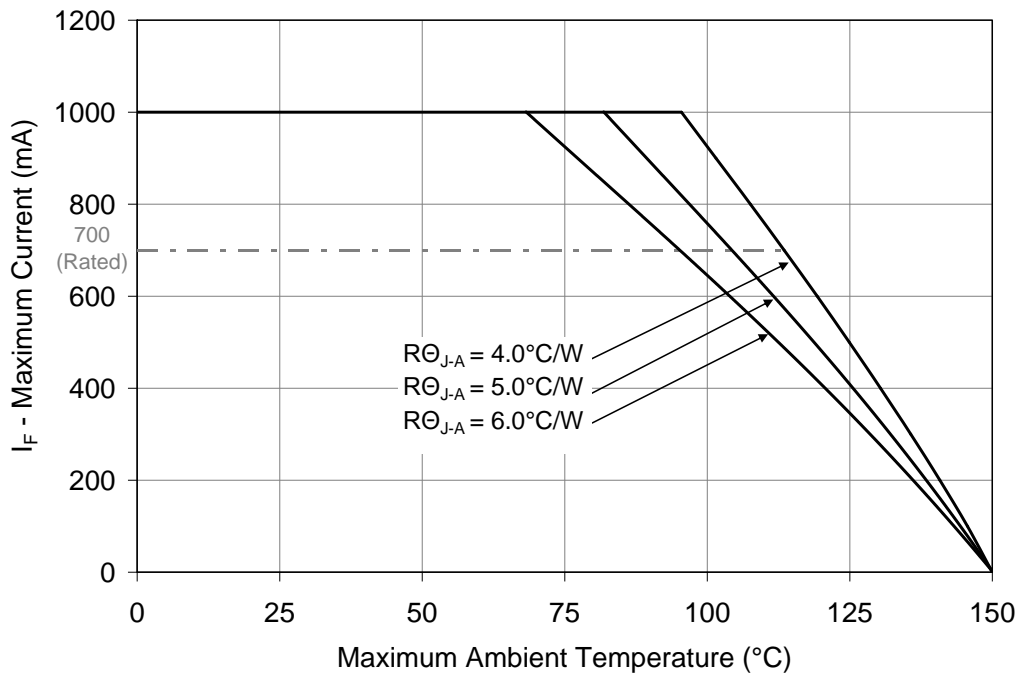

Figure 11: Maximum forward current vs. ambient temperature based on $T_{J(\text{MAX})} = 150^\circ\text{C}$.
- Maximum DC forward current is determined by the overall thermal resistance and ambient temperature. Follow the curves in Figure 11 for current derating.
Notes for Figure 11: